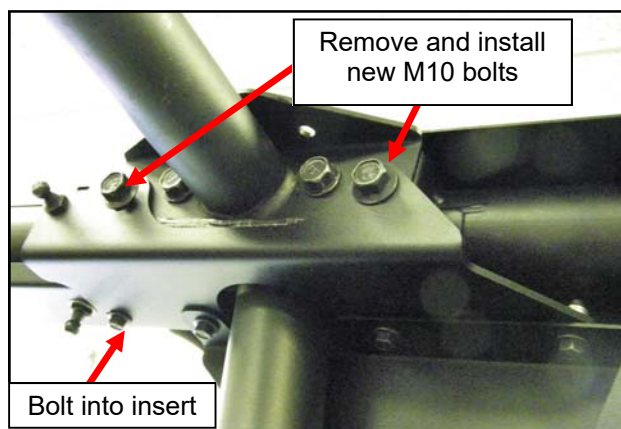

Fig. 8.2 (Canopy gas spring bracket)
8.2 Per figure 8.2, remove the (2) M10 bolts at the center ROPS cross tube, the farthest to the front and rear, from the left (driver's side) end of the cross tube. Place the left gas spring bracket against the ROPS as shown and secure it with new, longer M10 bolts and leave loose.
8.3 Per figure 8.2, insert one 1/4-20 bolt through the mount and into the insert in the header and leave loose. Install (3) 1/4-20 bolts through the B-pillar upper flange into the threaded inserts in the gas shock bracket and leave loose.